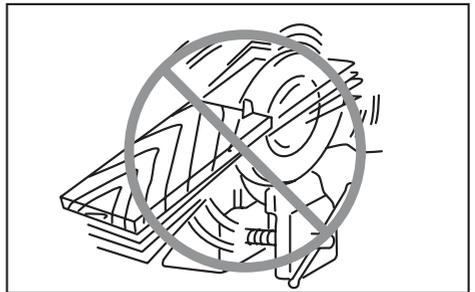

Fig. 7
17. **Never attempt to saw with the circular saw held upside down in a vise. This is extremely dangerous and can lead to serious accidents.** (Fig. 7)